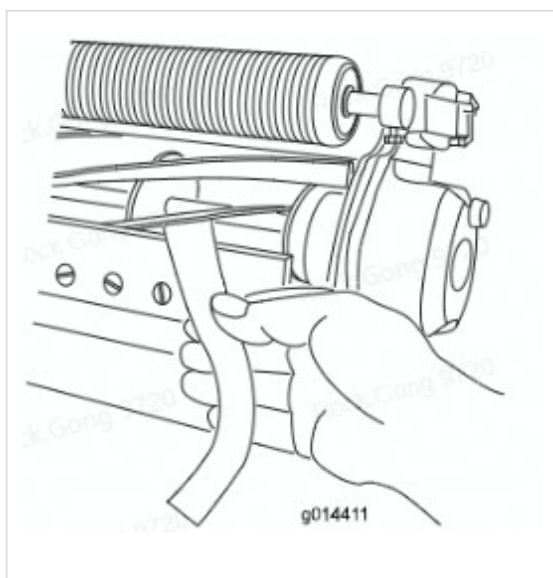

Figure 7
5. To maintain slight contact between the cylinder and the bottom knife, loosen each adjusting nut a little bit (① tighten the nut to move the bottom knife edge further away from the cylinder; ② loosen the adjusting nut to bring the bottom knife edge closer to the cylinder).
6. Insert a long strip of shearing performance paper between the cylinder and the bottom knife to test the shearing performance perpendicularly to the cylinder and bottom knife (Figure 7). Slowly rotate the cylinder shearing detection paper forward (observe whether the detection paper is cut cleanly and neatly, if not, it needs to be installed and sharpened before adjusting the gap).